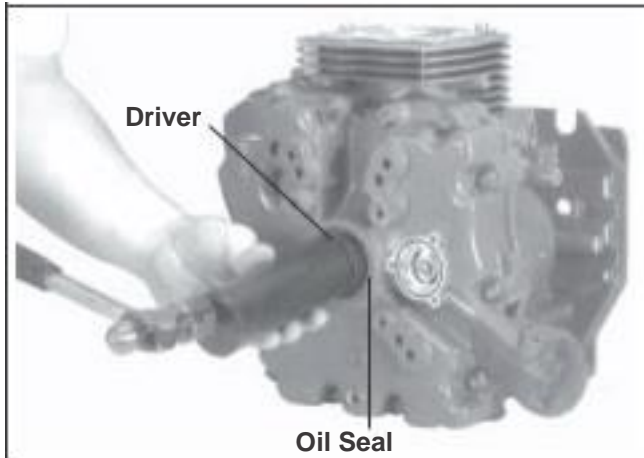

Figure 11-23. Installing Oil Seals.
2. Use a seal driver, install the PTO end and flywheel end oil seals. See Figure 11-23.